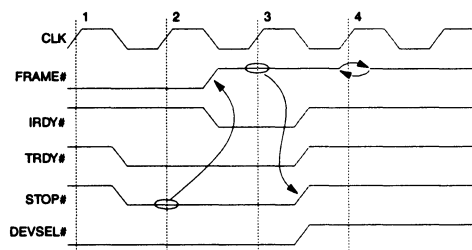
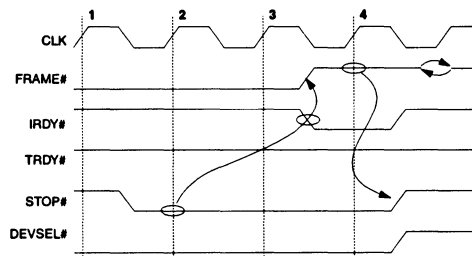
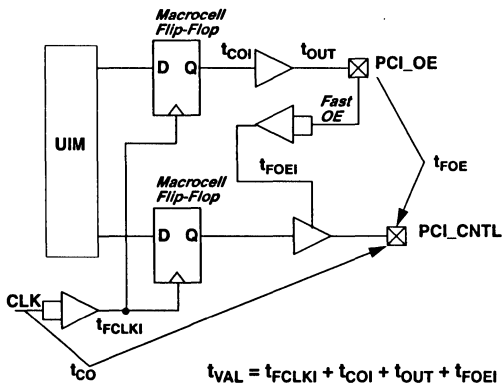
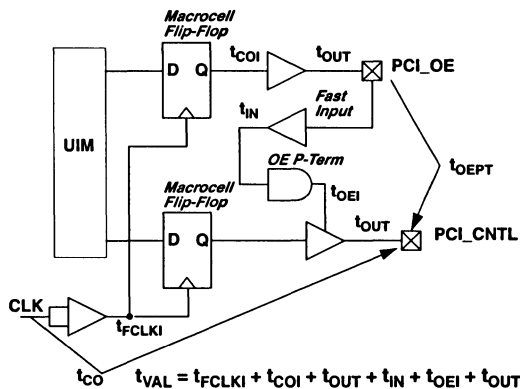

Figure 9. Disconnect Timing
Figure 10. Retry Timing
Figure 12. Fast Output Enable Timing Path
Figure 13. Fast Input Timing Path
There are many instances in which targets may wish to terminate the PCI transaction. Target disconnects are identified by the assertion of the signals **STOP#**, **TRDY#**, and **DEVSEL#** as shown in Figure 9. The initiator responds to the disconnect condition by de-asserting **FRAME#** on the following clock period and does not complete the data transfer until it asserts **IRDY#**. When the PCI interface is accessed and data is unavailable for read transfers or the FIFO is full for write transfers, the PCI interface terminates the cycle and requests a retry. This condition is identified by the assertion of both **STOP#** and **DEVSEL#** while **TRDY#** is de-asserted. Figure 10 shows the behavior of the target Interface when performing a target-initiated retry.
The PCI bus turnaround cycle occurs in different cycles for different signal types (address/data, control, error) resulting in a need for multiple, independent 3-state buffer controls. The XC7300 architecture allows designers two options to meet the clock-to-output enable valid specification ( $t_{VAL} = 11$  nsec). Figure 12 illustrates one option using one of the two global Fast Output Enable (FOE) pins in an EPLD Fast Function Block.
For the remaining control signals, PCI clock-to-output valid timing requirements can be met using the High Density Function Block (FB) Fast Input (FI) paths to drive the output enable product term (OE P-TERM). This option is illustrated in Figure 13.
Figure 12 and Figure 13 incorporate macrocell-to-pad plus pad-to-pad delays to enable the 3-state buffers. Using internal data sheet parameters to calculate  $t_{VAL}$  results in values which exceed 11 nsec. Device characterization data however, guarantees that High Density FB macrocells configured as shown in Figures 10 and 11 will meet the 11 nsec specification.